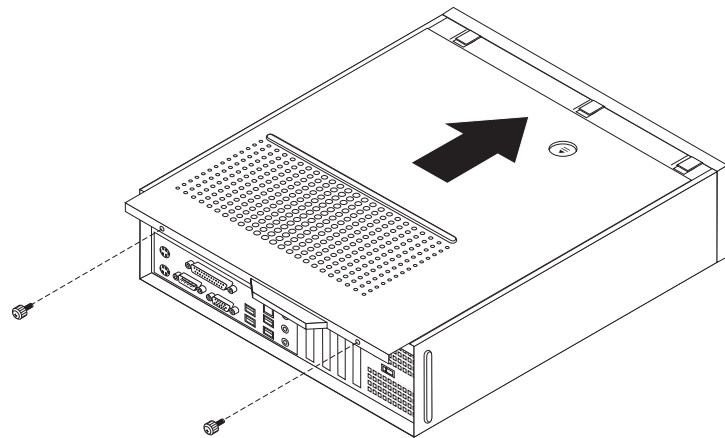

Figure 43. Installing the computer cover
5. Replace the computer cover and connect the power cord. See Figure 43 on page 35.